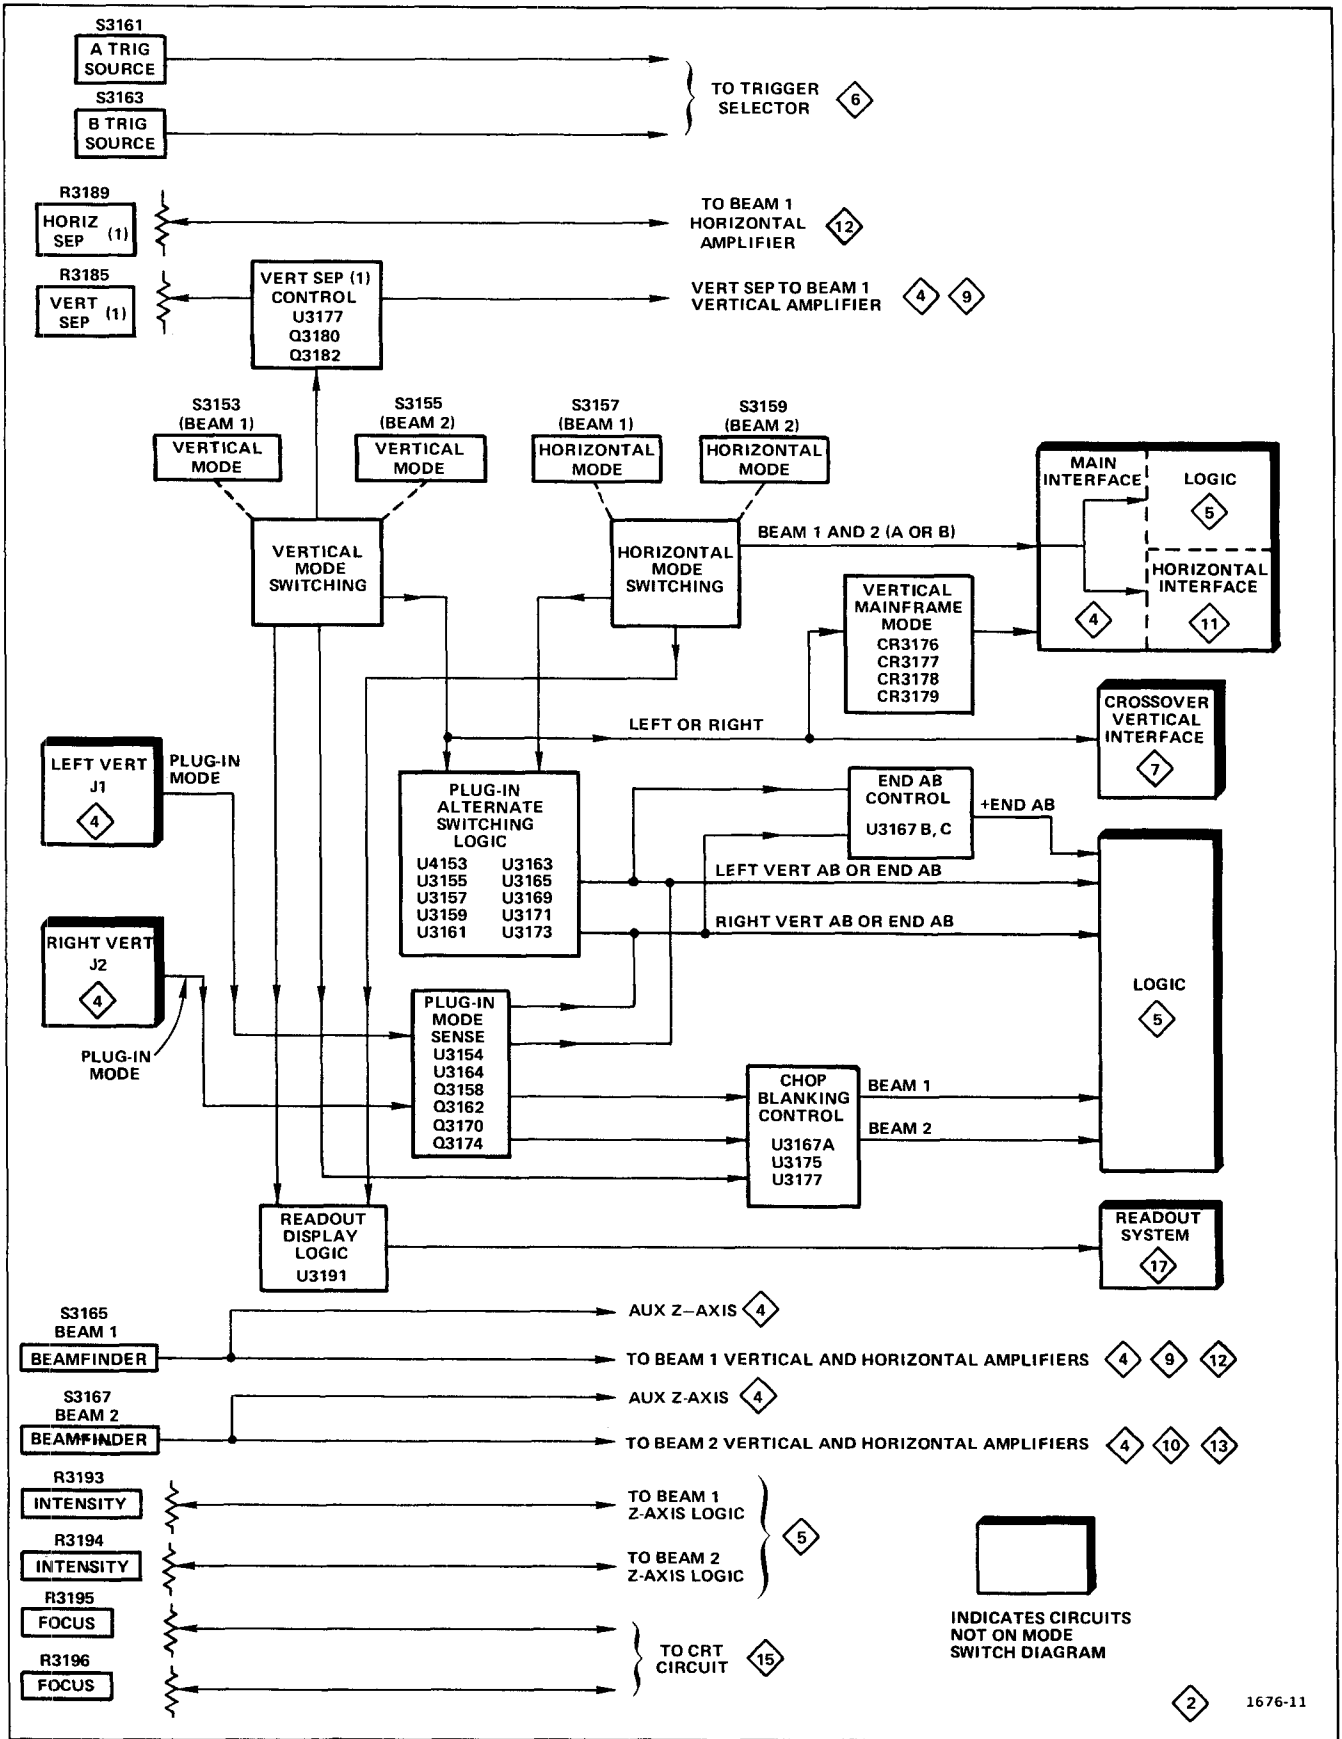

Fig. 3-1. Detailed block diagram of Crossover Mode Switch circuits.
The Crossover Mode Switch circuit includes front-panel switching and provides the logic for selection of the vertical and horizontal compartments that control the deflection of beam 1 and beam 2. The Crossover Mode Switch circuits operate in conjunction with the Logic circuits (diagram 5) to develop control signals for use in other circuits within this instrument and plug-in units installed. Figure 3-1 shows a detailed block diagram of the Crossover Mode Switch. A schematic of this circuit is shown on diagram 2 at the rear of this manual.
The Vertical Mode Switching signals are also used in the following stages within the Crossover Mode Switch circuits: Plug-in Alternate Switching Logic, Chop Blanking Control, Vert Sep (1) Control, and Readout Display Logic. Refer to the block diagram in Fig. 3-1.
The Plug-In Alternate Switching Logic stage is controlled by the Vertical Mode Switching and Horizontal Mode Switching stages (refer to the block diagram in Fig. 3-1). Figure 3-2 shows input/output conditions for all combinations of the VERTICAL MODE and HORIZONTAL MODE switches. A HI level at P3129 pins 3, 4, 5, 6, 7, 8, or 9 is an enable command to the Left Vertical Alternate Switching, Right Vertical Alternate Switching, or End of AB Alternate Logic stages on the Logic circuit (diagram 5). Refer to the Diagrams section for a block diagram of the Logic circuit.